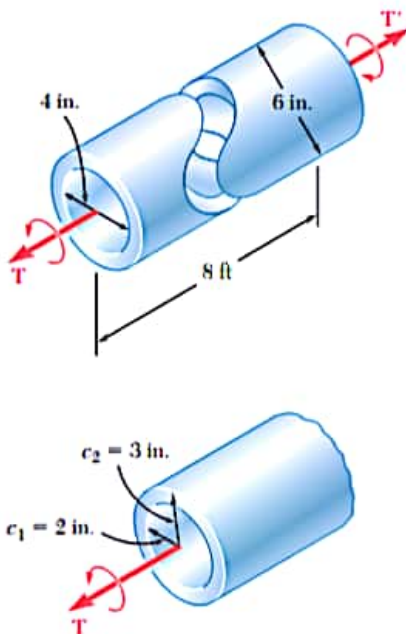

Fig. 1 Shaft as designed.
a. Hollow Shaft as Designed. Using Fig. 1 and setting $\tau_{\text{all}} = 12$ ksi, we write